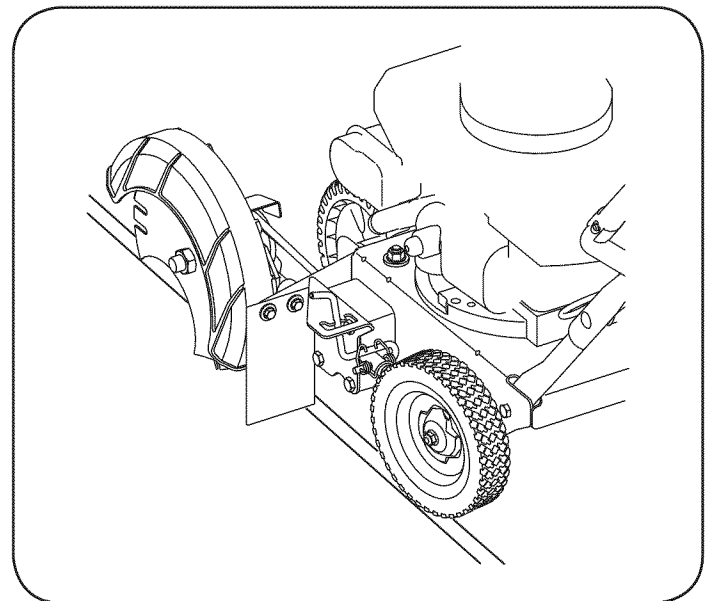

Figure 10
1. Move edger to an area to be edged, making sure that the left rear wheel is on a hard surface and the blade is over the area to be cut. See Figure 10.